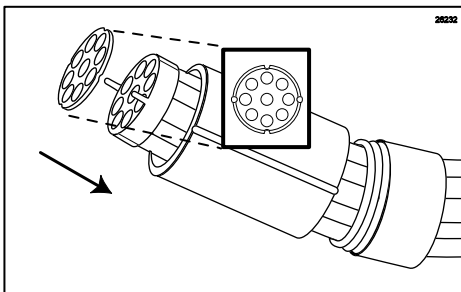

Figure 118
2. Align the 9-hole gasket with the coupler pins of the Lead and place the 9-hole gasket on the coupler. (See Figure 118.)